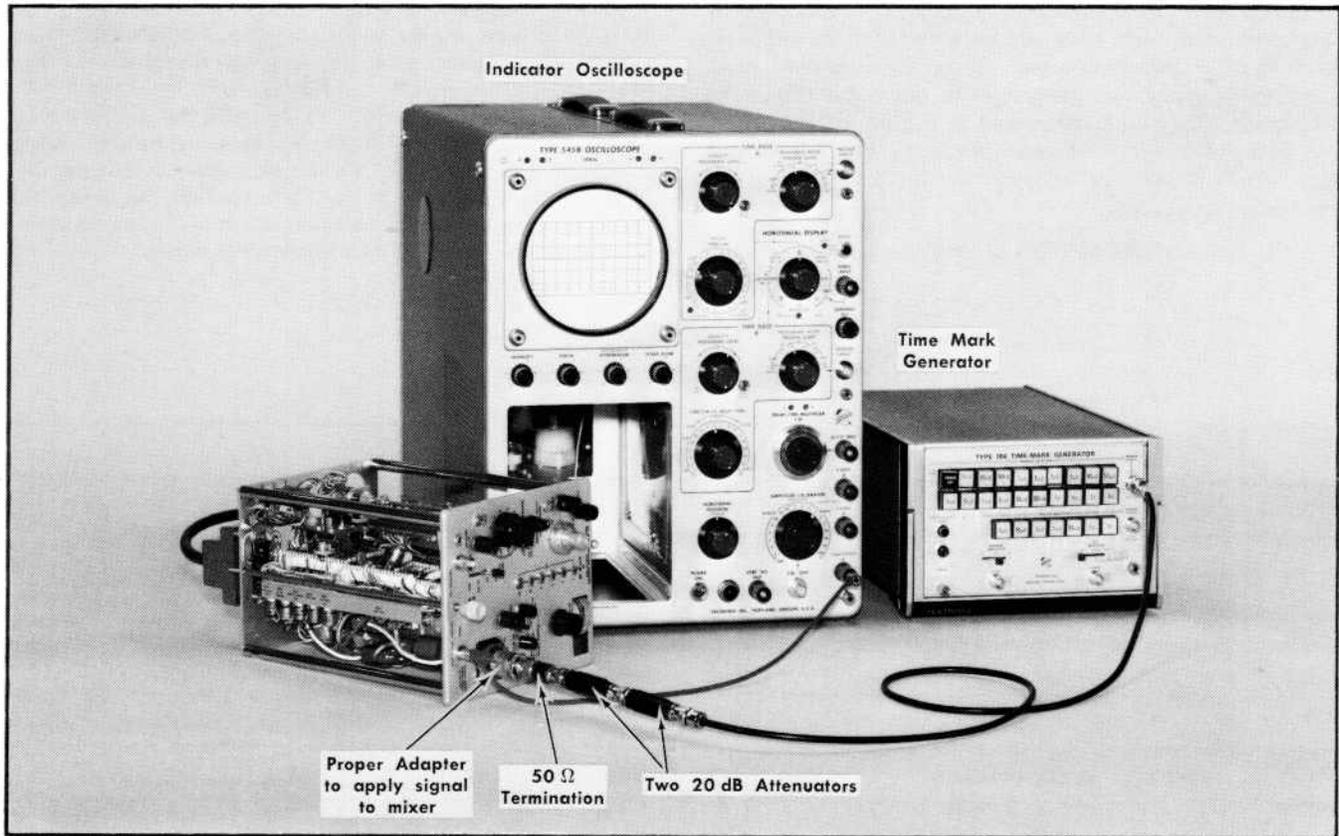

Fig. 5-11. Equipment setup to adjust and check kHz/CM dispersion accuracy (step 4).
- a. The equipment setup for this step is shown in Fig. 5-11.
- c. CHECK—the range of the IF CENTER FREQ control. Frequency range must equal or exceed + and — 2.5 MHz from its centered (000) position.
a. The equipment setup for this step is shown in Fig. 5-11.